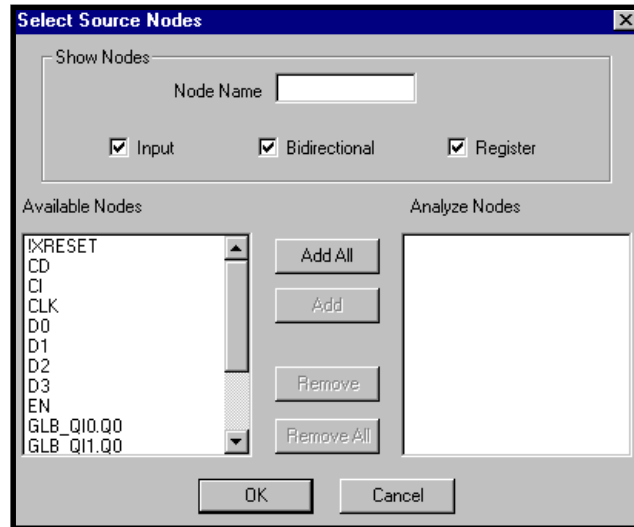

Figure 5-26. Select Source Nodes Dialog Box
- Click **Select Source Nodes** to display the Select Source Nodes dialog box (Figure 5-26). Use the Show Nodes area to filter the nodes to be displayed in the list boxes. Move the nodes between the Available Nodes and the Analyze Nodes lists using the **Add All**, **Add**, **Remove**, and **Remove All** buttons.